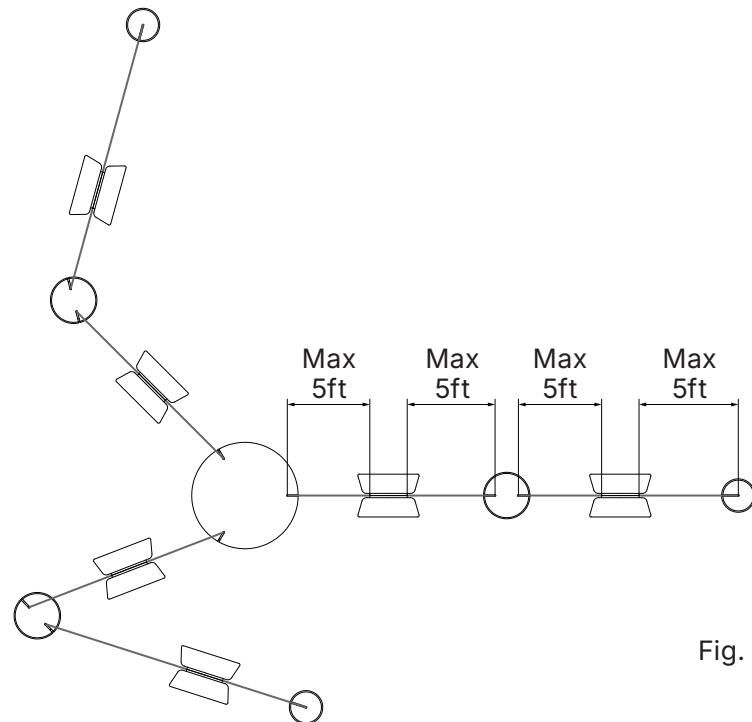

Fig. 1
- Up to two luminaires may be connected in a row from a power feed, with maximum 5ft horizontal distance from canopy to pendant (Fig. 1). It is recommended to have the power supply at a central location (Fig. 1).